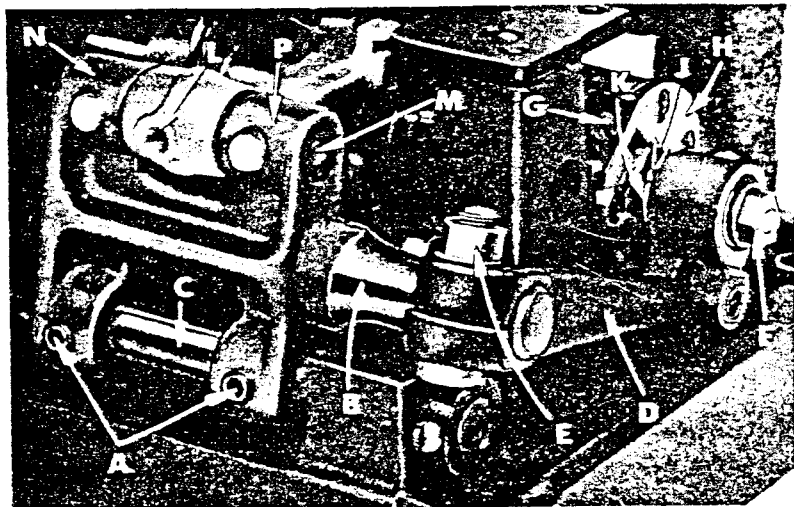

Fig. 10
Should it be necessary to move the feed dog to the left or right, loosen screws (A, Fig. 10) which hold the feed rocker (B) onto the feed rocker shaft (C), and move feed rocker to desired position and retighten screws. Make sure the feed rocker arm (D) does not bind after making this adjustment.
Should it be necessary to move the feed dog forward or backward, loosen nut (E, Fig. 10) which clamps the feed rocker arm to the feed rocker and move the feed rocker forward or backward as needed and retighten nut.
Set the stitch to required length. This is accomplished by loosening the locknut (F, Fig. 10) 1/2 turn (it has a left hand thread) on the end of the stitch regulating stud and turning the stitch adjusting screw (G) located under the left end of the cloth plate, in the head of the main shaft (H), which is marked with 'L' and 'S'. Turning the screw clockwise shortens the stitch (moves stitch regulating stud toward the 'S') and turning it in a counterclockwise direction lengthens the stitch (moves stitch regulating stud toward the 'L'). Retighten the locknut securely. To prevent destructive damage to the feed drive bearing, the Key screw (J) must engage the 'U' shaped key slot in the ferrule (K).
The feed rocker assembly may require lubrication or repair after years of operation. This can be accomplished as follows: Loosen nuts (E, F, Fig. 10) and remove nut (F). Remove feed rocker arm (D) from machine by rocking slightly. Loosen screws (A) and remove stop collar on right end of shaft (C). The shaft can now be withdrawn. Loosen Allen screw (L) and remove shaft (M). Now, repack bearings.
When packing bearings the parts must be clean and grease should be applied directly from the tube to avoid contamination. Tube of grease can be supplied under the part number 28604 P. Greased bearings are located at (N, P, Fig. 10). If grease sealed bearings are replaced they should be pressed in flush with the casting. To assemble, reverse the procedure described in the previous paragraph. Start tapered end of shafts first, twisting slightly when entering the grease seals to prevent damage. Check for proper adjustment of feed dog as described under 'Setting the Feed Dog'. Also check to see that there is no binding at any point.